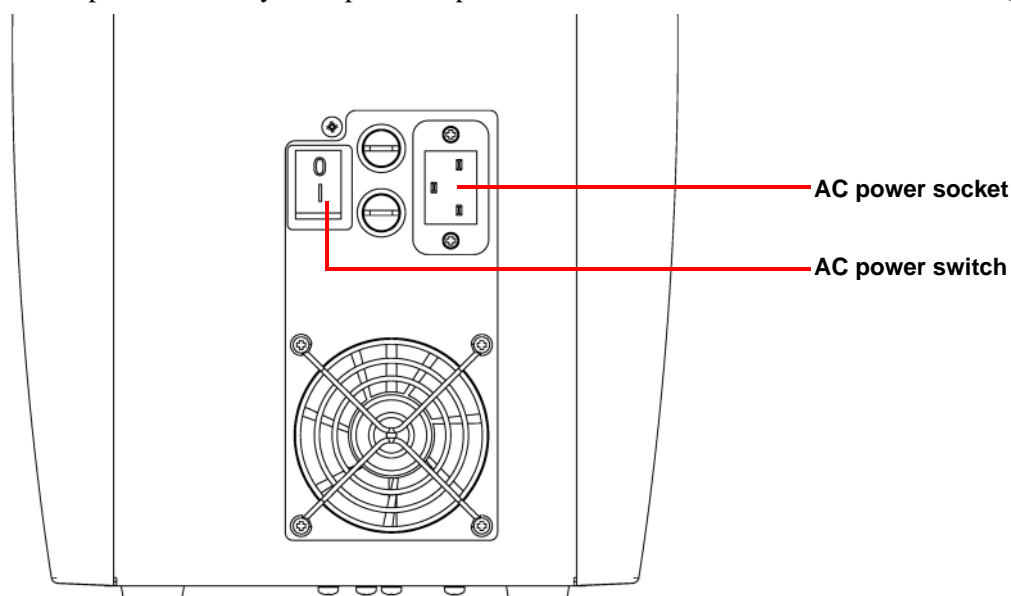

Figure 20 Lower back panel of electronics box.
- 1 Plug the AC power cord into the AC power socket on the lower back panel of the electronics box. Refer to Figure 20.
- 2 To power on the system, press the power switch on the electronics box to the On (I) position.
- 4 Power on the system by pressing the power switch on the electronics box to the On (I) position. Refer to Figure 20 for power switch location.
- 1 Turn off the power to the system by pressing the power switch on the electronics box to the Off (0) position. Refer to Figure 20 for power switch location.